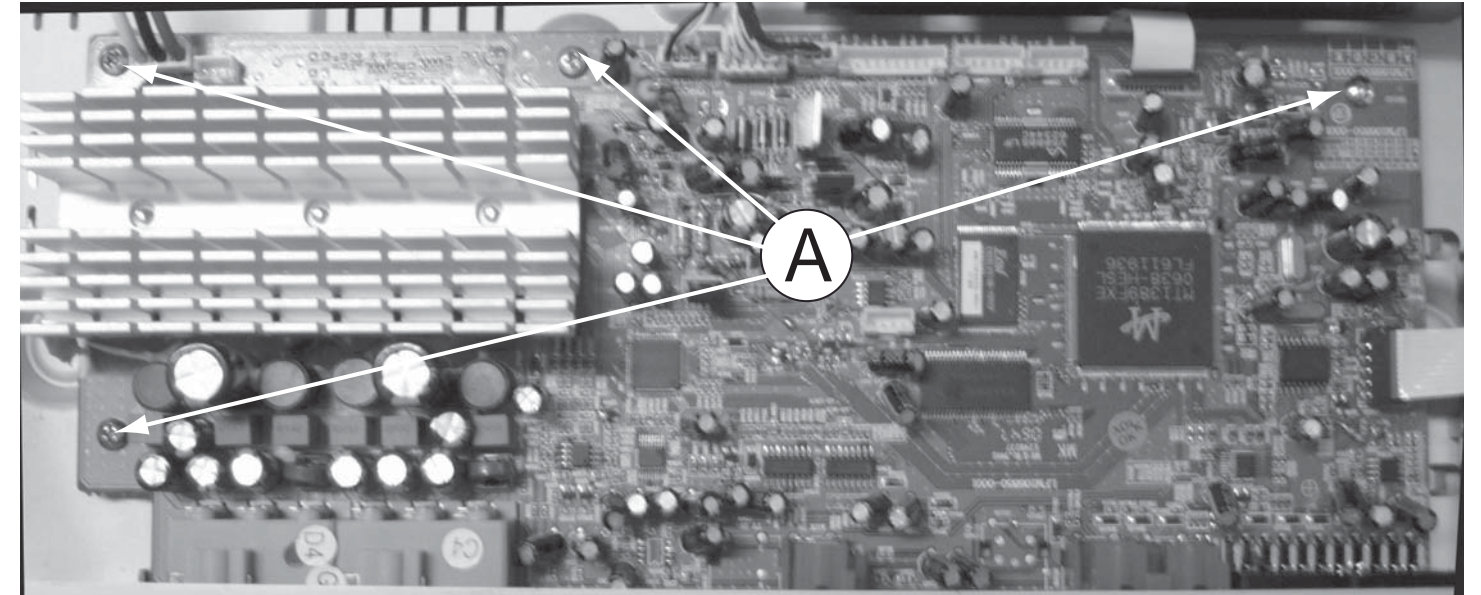

Figure 4
- 1) Loosen 4 screw " A " on the top of main board as shown in figure 4.